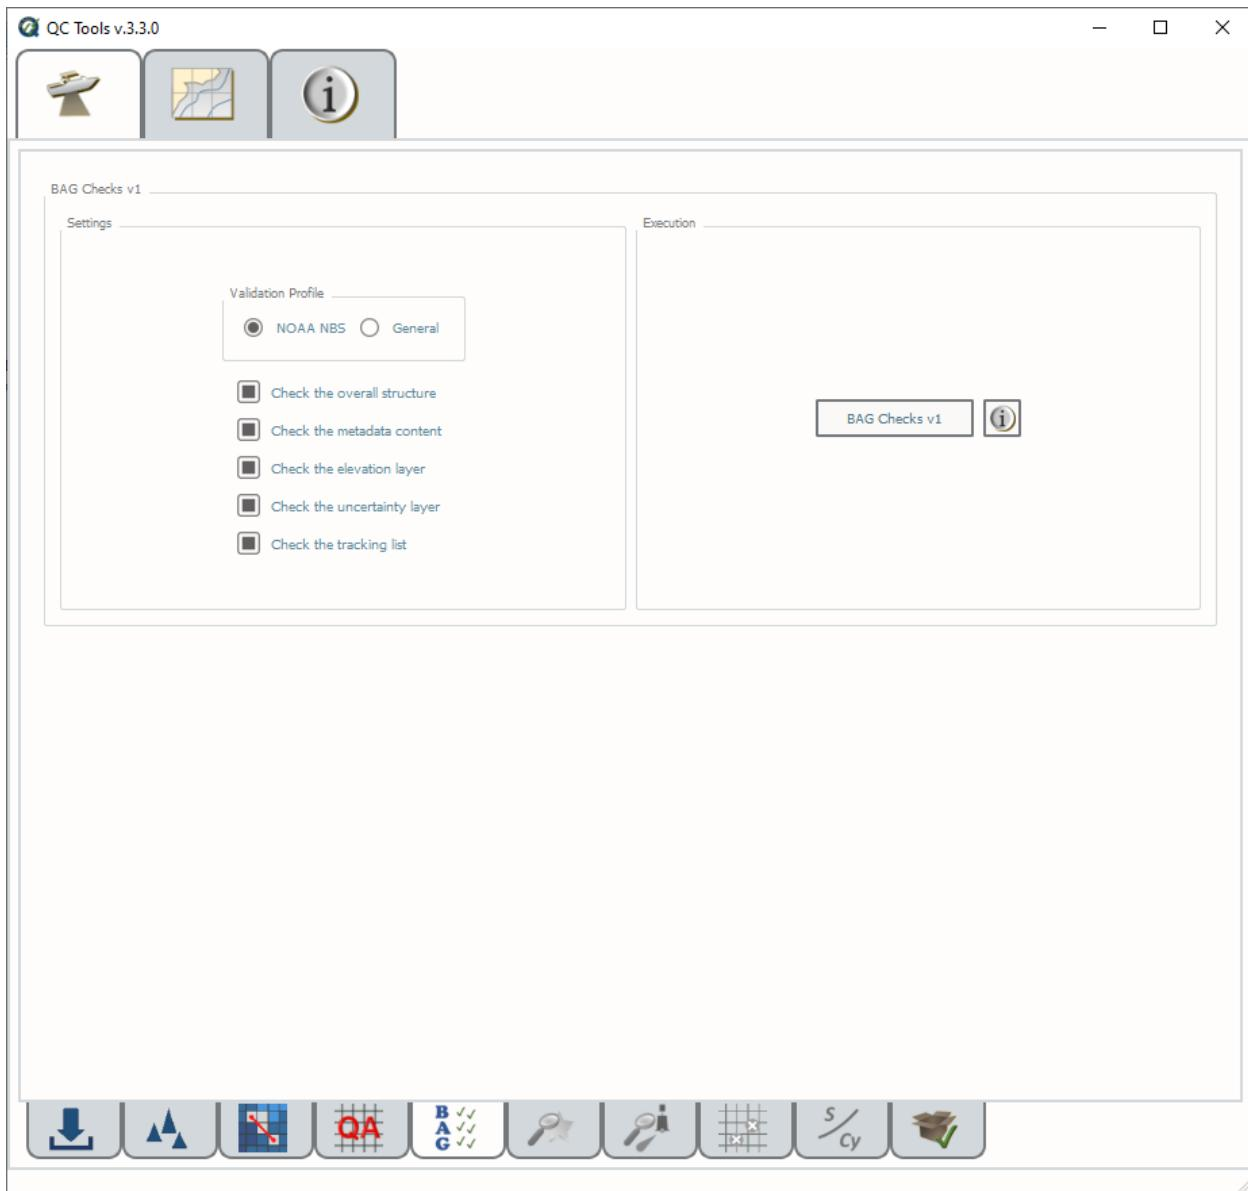

Fig. 2.34: The BAG Checks tab.
- Select the **BAG Checks** tab (Fig. 2.34) on the bottom of the QC Tools interface.